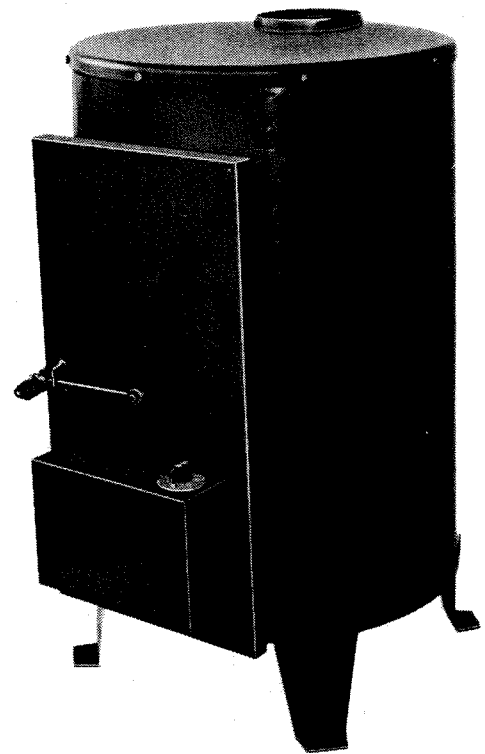

Fig. 71. Shenandoah Model R-65 for wood or coal.
7. **Shenandoah Manufacturing Co., Inc.** (manufacturer), P.O. Box 839, Harrisonburg, VA 22801. Model R65 burns wood or coal (\$210.93 with coal grate). Model R75 designed for wood only. See Fig. 71 and Table 8.